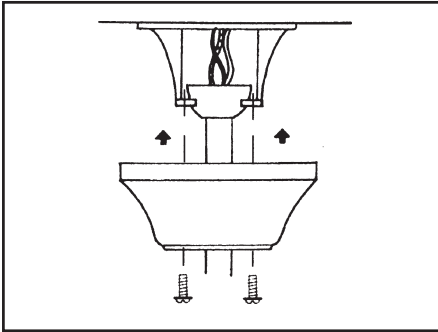

FIG. 14
Step 1. Slide the canopy up to ceiling as shown in Figure 14. Make sure to place the wires safely into outlet box. Secure the canopy to the hanger bracket with the two screws provided on the bracket.